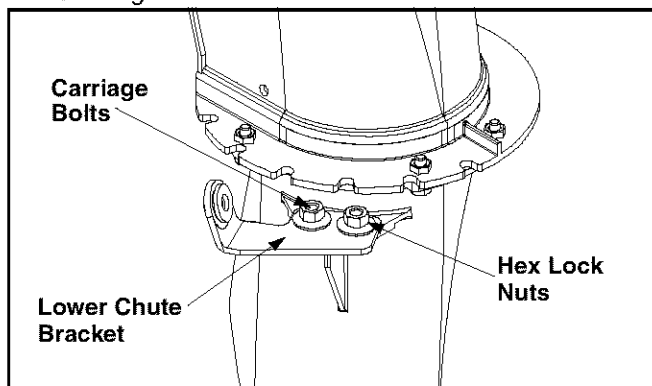

Figure 7
- To align the spiral on the chute directional control, you may have to loosen the carriage bolts and hex lock nuts securing lower chute bracket to the extension on the left side of the chute assembly. See Figure 7.